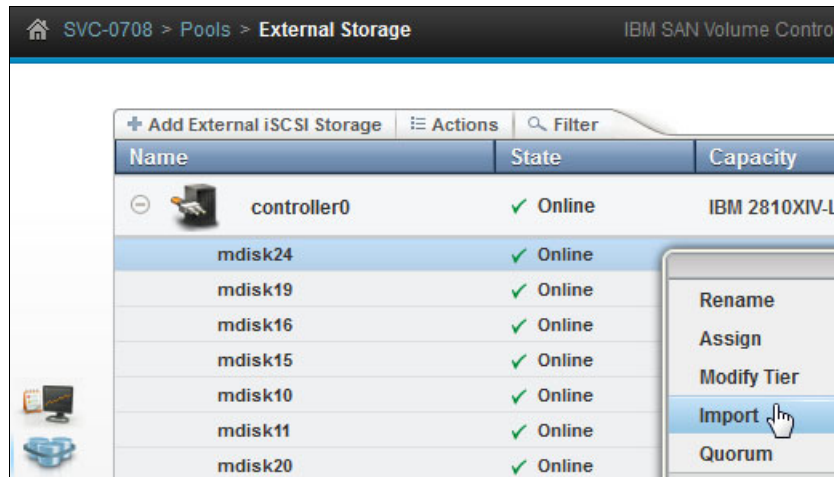

Figure 5-22 Import selected to import the MDisk
1. Click **Pools** → **External Storage** and import the Image mode MDisk, mdisk24, to an Image mode VDisk (volume) by right-clicking the MDisk and selecting **Import** (see Figure 5-22).